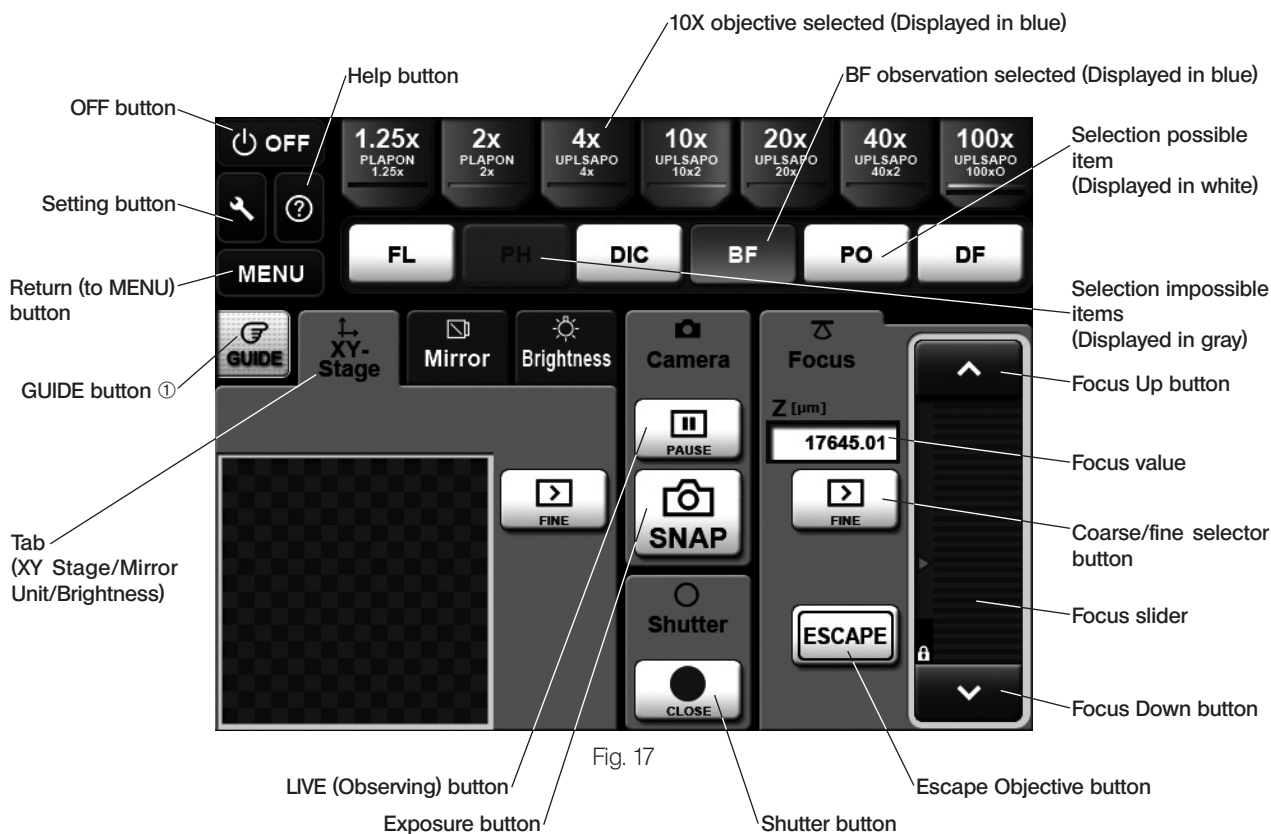

Fig. 17
3. The control screen is displayed. The example shown in Fig. 17 is the control screen for the Guidance mode, 10X objective and BF (brightfield) observation.
- Ⓞ Tap the **GUIDE** button ① to view the observation procedure (Guidance mode only).